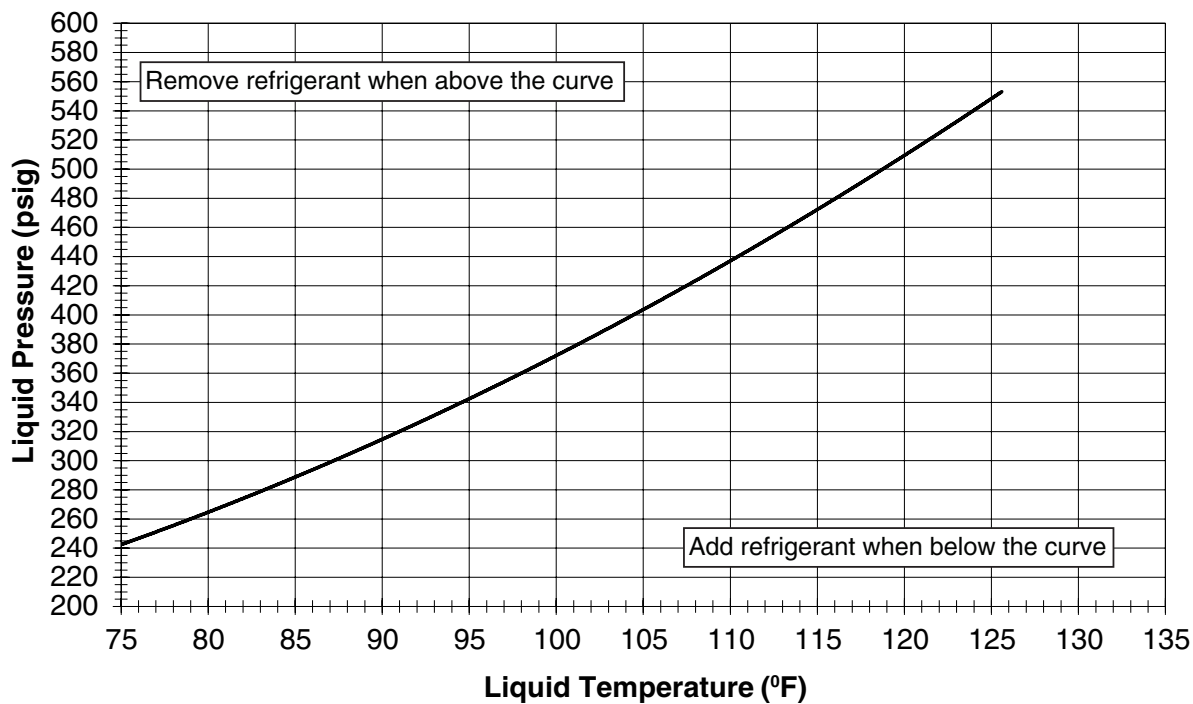
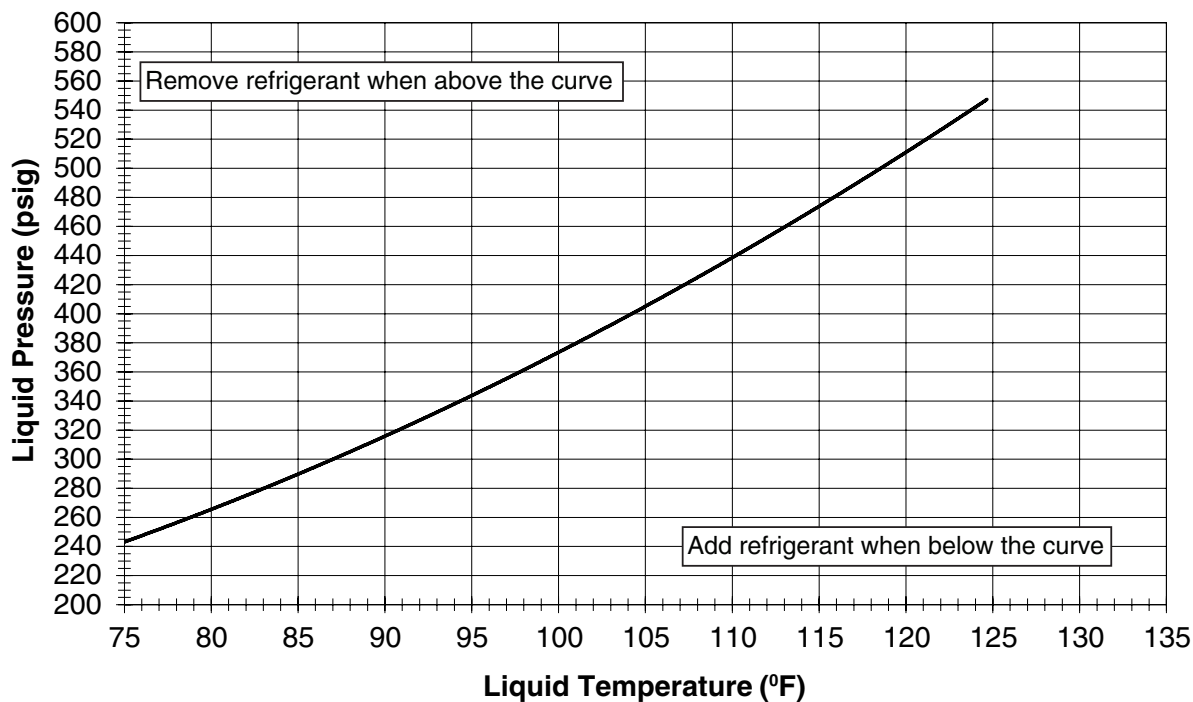
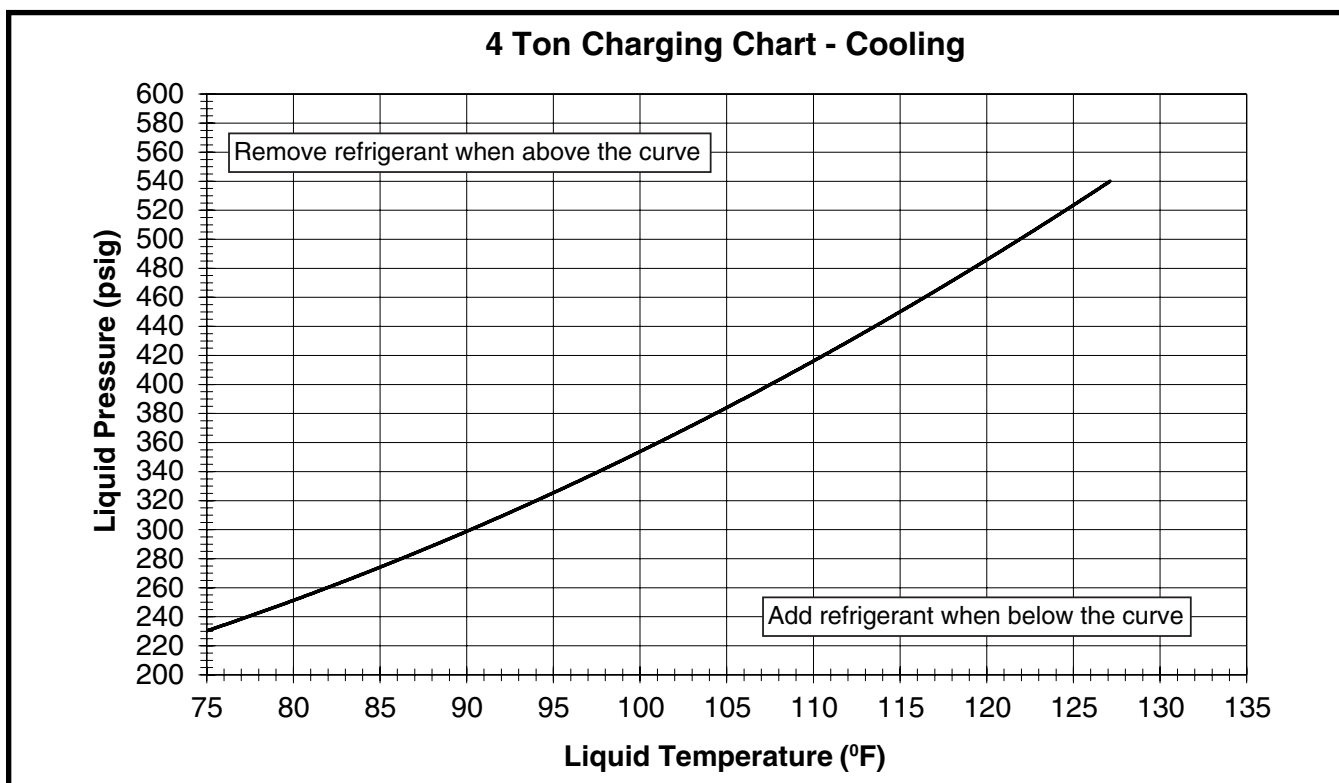

Figure 9. Charging Chart for 3 Ton Models
Figure 10. Charging Chart for 3.5 Ton Models
Figure 11. Charging Chart for 4 Ton Models
- Cooling mode charging charts and tables are applicable only to matched assemblies of this equipment and listed airflows for the indoor coil. Refer to the Quick Reference Data sheet for additional charging information. Outdoor units with non-AHRI listed indoor coils are not recommended and deviations from rated airflows or non-listed combinations may require modification to the expansion device and refrigerant charging procedures for proper and efficient system operation. For correct system charging, refer to Figure 6 \(page 10\), Figure 7 \(page 11\), Figure 8 \(page 11\), Figure 9 \(page 12\), Figure 10 \(page 12\), Figure 11 \(page 13\), & Figure 12 \(page 13\) and Table 6 \(page 14\), Table 7 \(page 14\), Table 8 \(page 15\), Table 9 \(page 15\), Table 10 \(page 16\), Table 11 \(page 16\), & Table 12 \(page 17\).
3. Determine the required liquid refrigerant pressure from Figure 6, Figure 7, Figure 8, Figure 9, Figure 10, Figure 11, & Figure 12.
- Charging charts are valid for a variety of indoor, return air conditions and are most influenced by the outdoor ambient temperature, outdoor fan operation and the unit operating voltage. Before using these charts, make sure the unit is in a stable operating mode. As shown in the charging charts: Figure 6, Figure 7 \(page 11\), Figure 8 \(page 11\), Figure 9 \(page 12\), Figure 10 \(page 12\), Figure 11 \(page 13\), & Figure 12 \(page 13\), the ideal system sub-cooling can vary over the range of operation. Reference the charts to determine the ideal amount of sub-cooling for a given liquid pressure. Units charged to other values will not perform at the rated unit efficiency (EER) or rated Coefficient of Performance (COP) in heating mode.